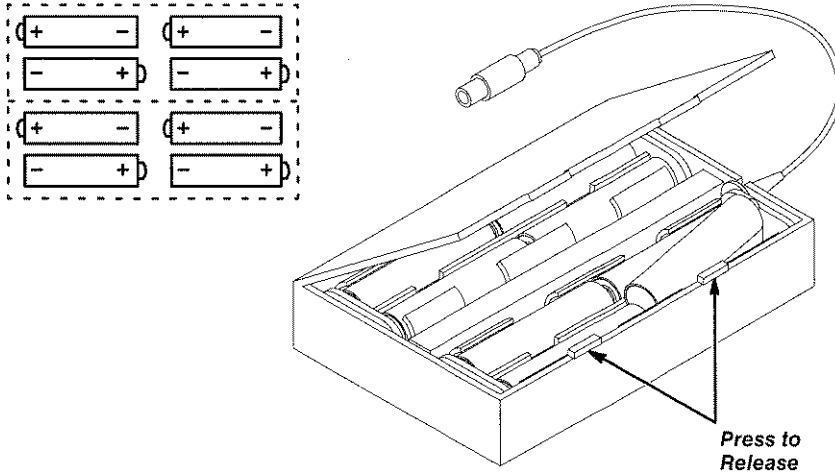

Figure 4: Installing Batteries (Auto Back)
You will need eight alkaline batteries, size AA. Always replace all eight batteries at the same time. For reliable operation of the camera you must use alkaline batteries. Figure 4 shows the location of the batteries.
- Step 4:** Remove the used batteries. Install the new batteries as shown in Figure 4.